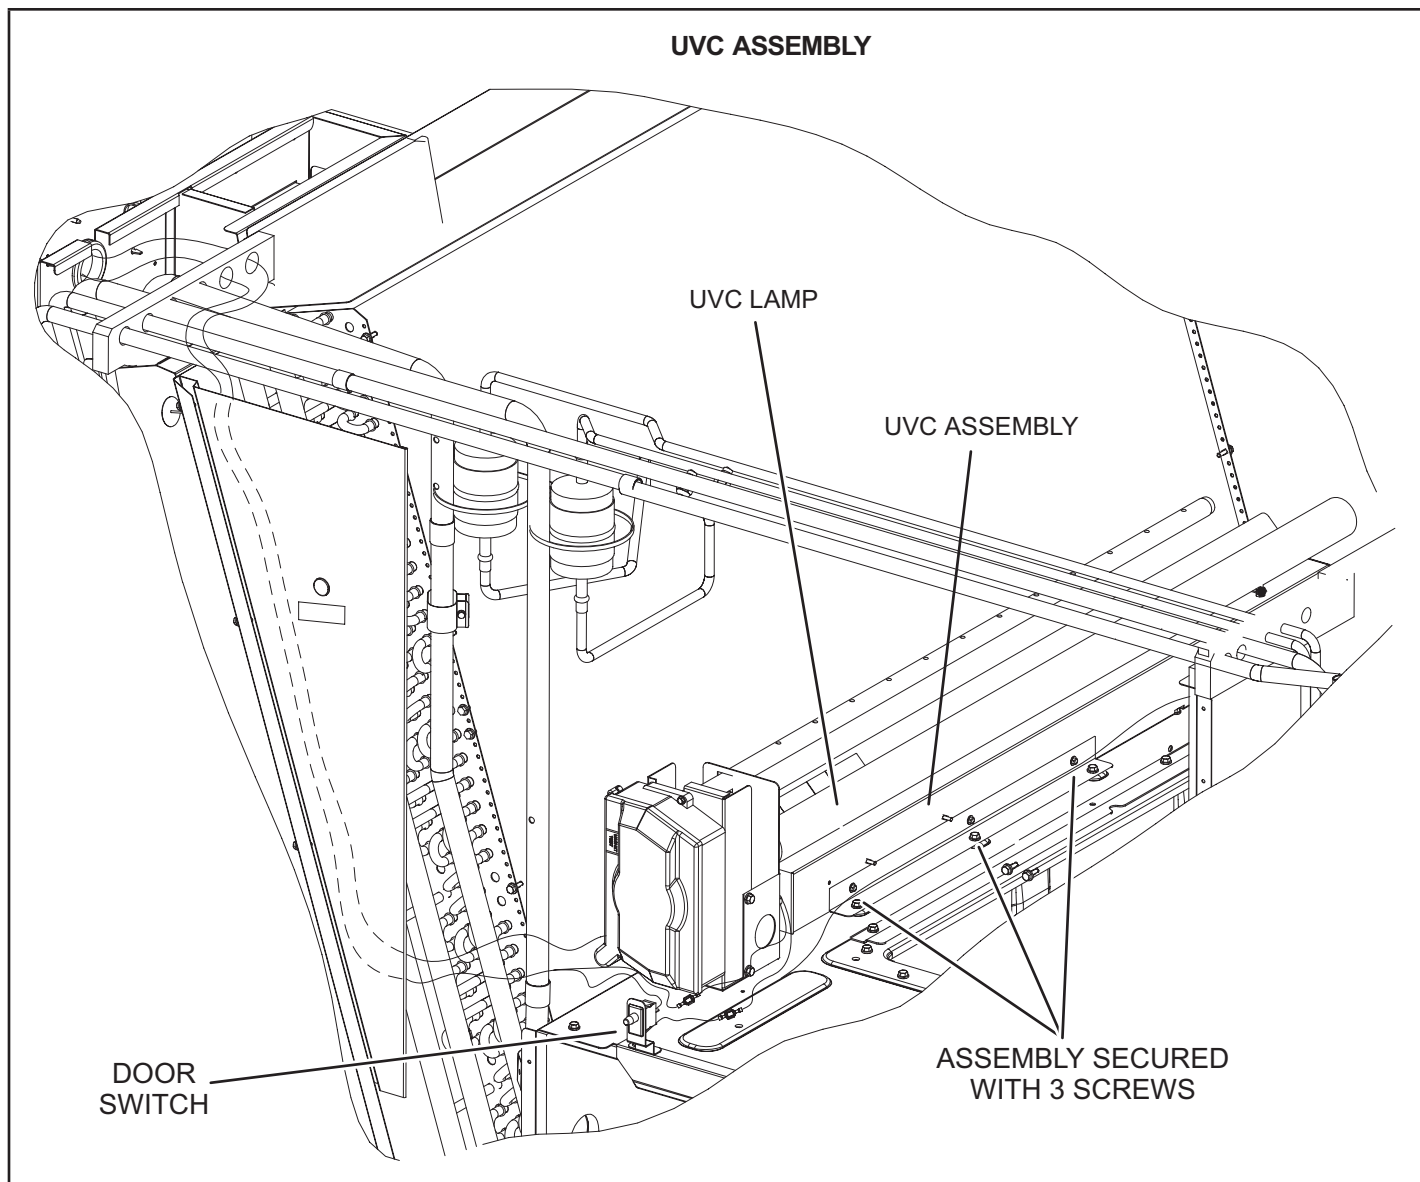

FIGURE 35
- 5 - Remove and retain the (3) screws securing the UVC assembly. Carefully slide the complete UVC assembly out through the blower access door. See FIGURE 35.
- 8 - Carefully place the UVC assembly on the blower deck. Line up the mounting holes on the UVC assembly with the mounting holes on the blower deck. See FIGURE 35. Use the retained screws provided to attach the UVC assembly in place.